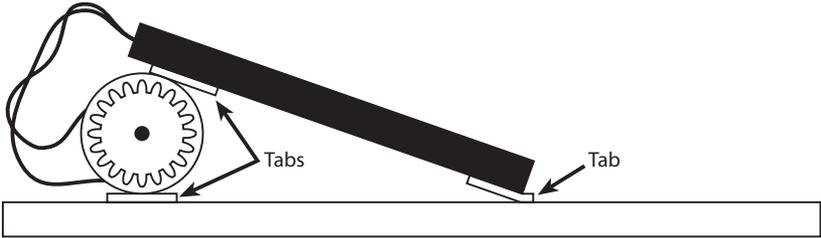

Figure 3
18. Place two adhesive tabs on back of the solar panel – one just under the wires and the other on the opposite end hanging over the edge just a little. Peel the paper backing off the adhesive tabs. Press the solar panel onto the body and motor so the wire end is near the motor and the solar panel angles toward the front of the chassis (Figure 3).